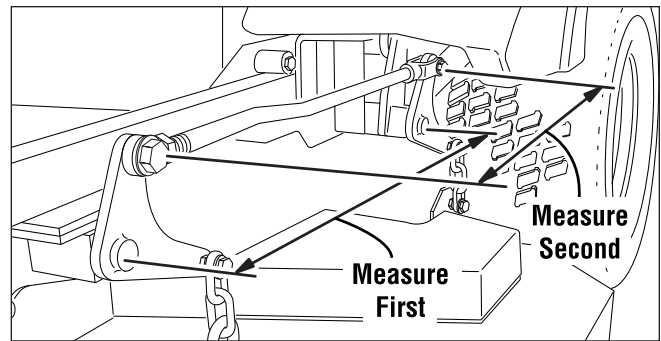

Figure 39. Check Lift Rod Timing
2. To check the deck lift rod timing, measure and record the distance between the lift pivots and the rod pivots. Repeat for other side of unit. See Figure 39.